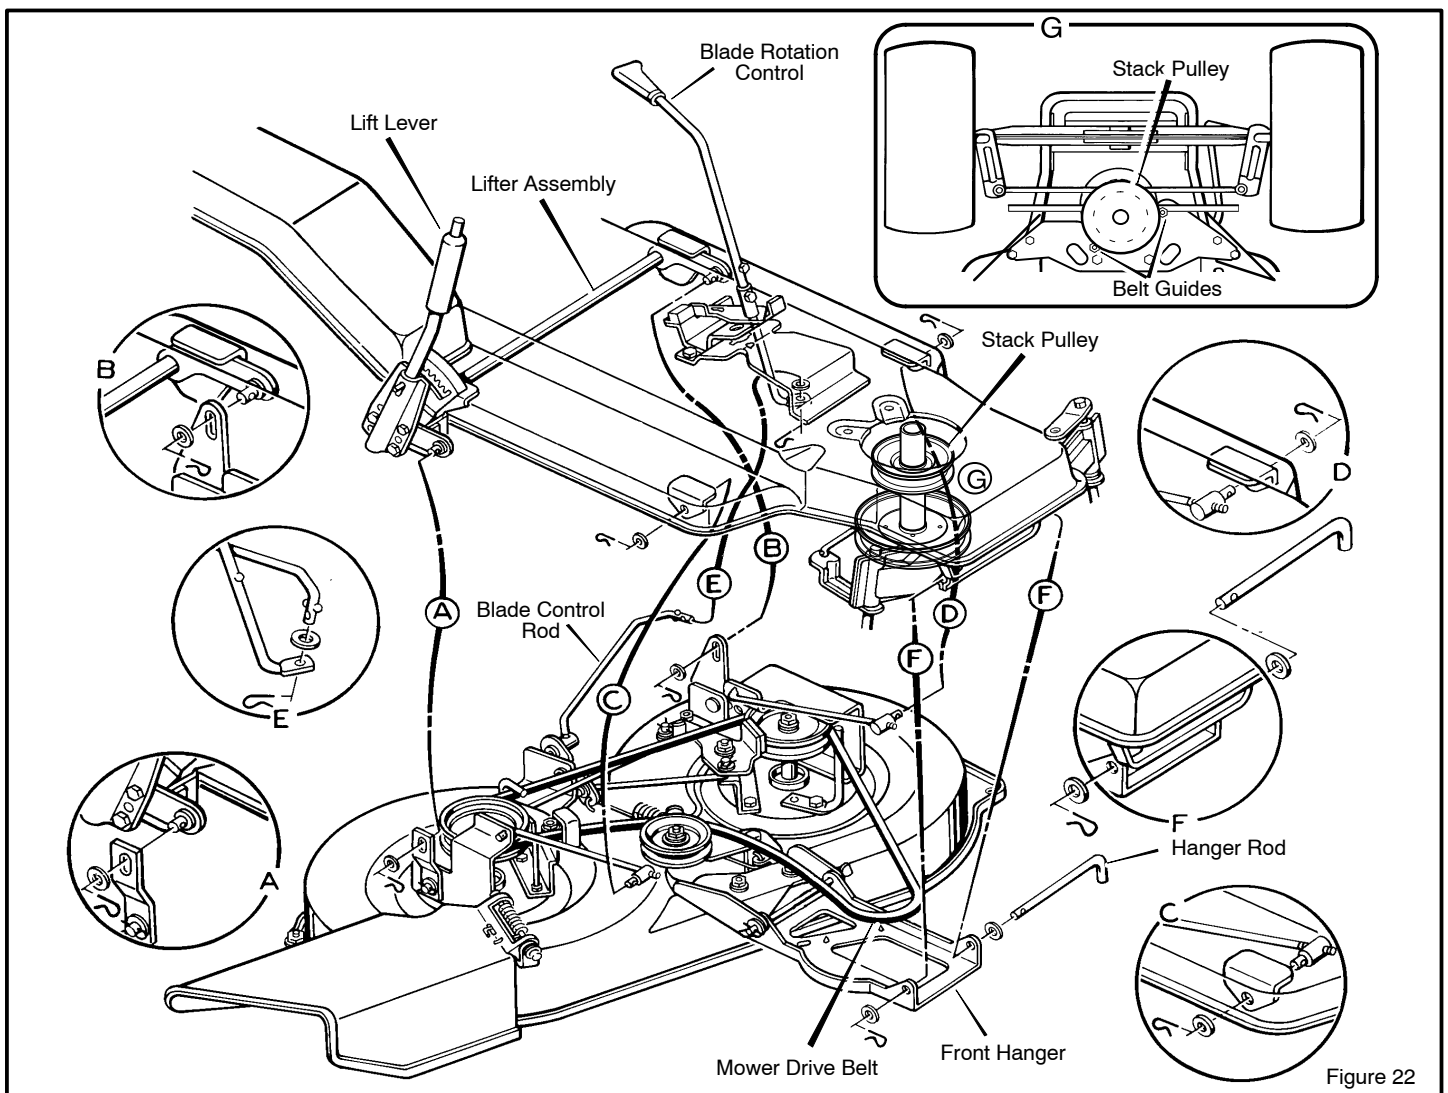

Figure 22
3. Remove the hair pins and the washers from the adjusting rods (Figure 22). See illustrations "C" and "D".